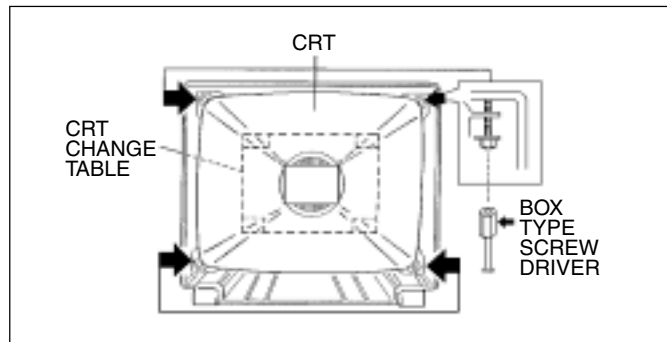

Fig. 3
- 2. While keeping the surface of CRT down, mount the TV set on the CRT change table balanced will as shown in Fig.3.
- 3. Remove 4 screws marked by arrows with a box type screwdriver as shown in Fig.3.